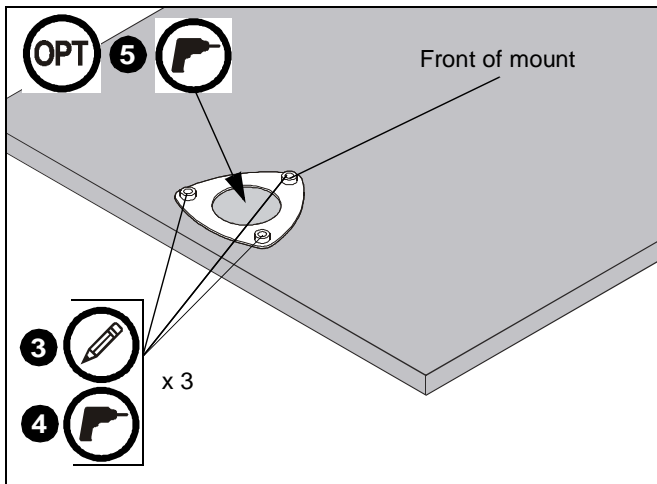

Figure 2
3. Use clamping plate (D) as a template to mark locations for the three holes to be drilled at desired mounting location.
4. Drill three 5/16" holes at locations marked in Step 3. (See Figure 2)
5. (Optional) If cables will be routed through the desk, drill an additional hole in the center of the clamping plate that is large enough to accommodate all cables that will be routed through the desk. (See Figure 2)